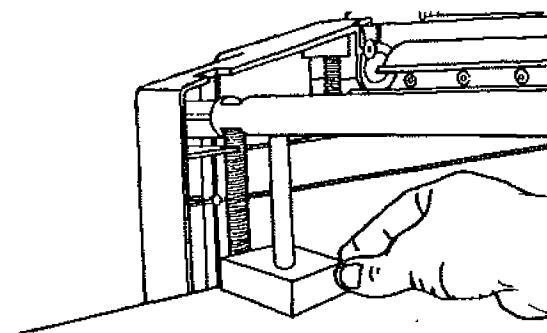

Fig. 75
6. Adjust the mounting post. Place the feeler gauge on one side of the table, under the upper tie bar. Attach the crank handle and slowly turn the mounting post until the top of the feeler gauge barely touches the underside of the tie bar, as illustrated in Fig. 75.